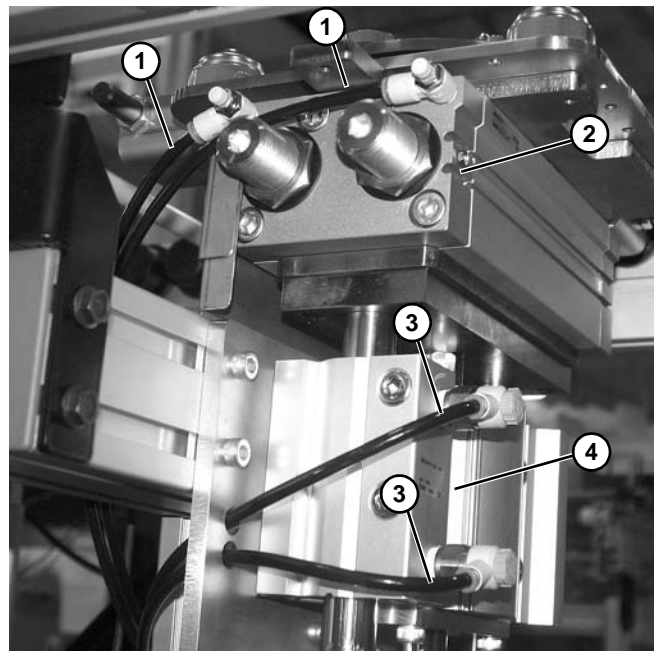

Figure 100
4. Disconnect both hoses (**Figure 100, item 1**) from fittings on rotate cylinder (**Figure 100, item 2**).
5. Disconnect upper and lower hoses (**Figure 100, item 3**) from fittings on lift cylinder (**Figure 100, item 4**).